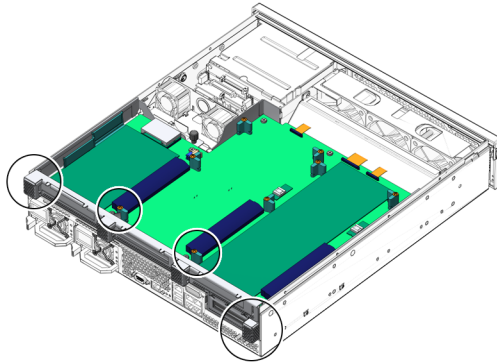

FIGURE 4-1 PCI Tray and PCI Card Securing Screws
2. Identify which PCI-X card is to be removed and loosen the appropriate securing screw(FIGURE 4-1).
2. Determine where the PCI-X card will install and loosen the appropriate securing screw (FIGURE 4-1).